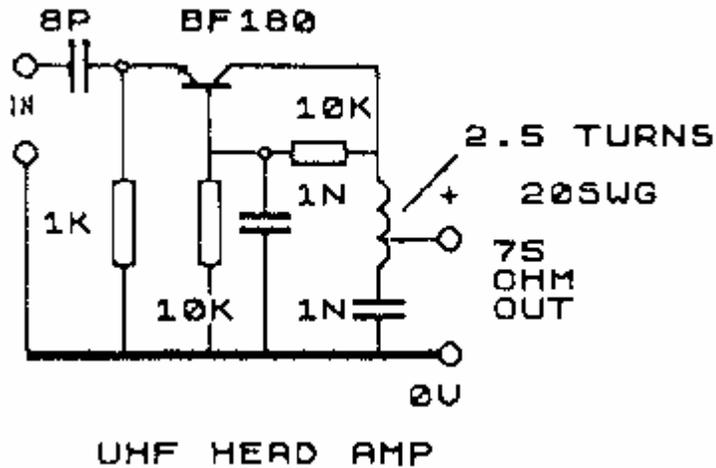

Figure 15.
- 3/ Cursor to (7,11) and select a vertical resistor, item 0 from CARD 1 ([CS]1 then 0).
- 11/ Now enter PLOT MODE (Q) and link up the symbols to form the circuit shown overleaf in fig 15. {You need to select the thinnest line width for all connections except the '0 V' rail which can be thicker.)
If you wish, enter the text as shown in the finished diagram, figure 15 below.